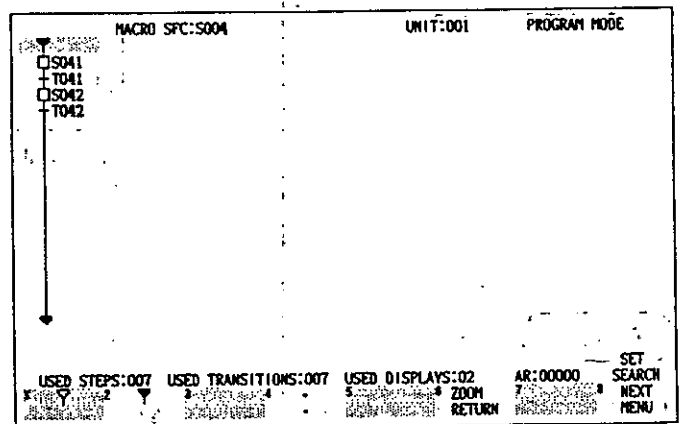

Fig. 6.39
2. If a macro step is used in Fig. 6.39, continue operation with **ZOOM UP** key.